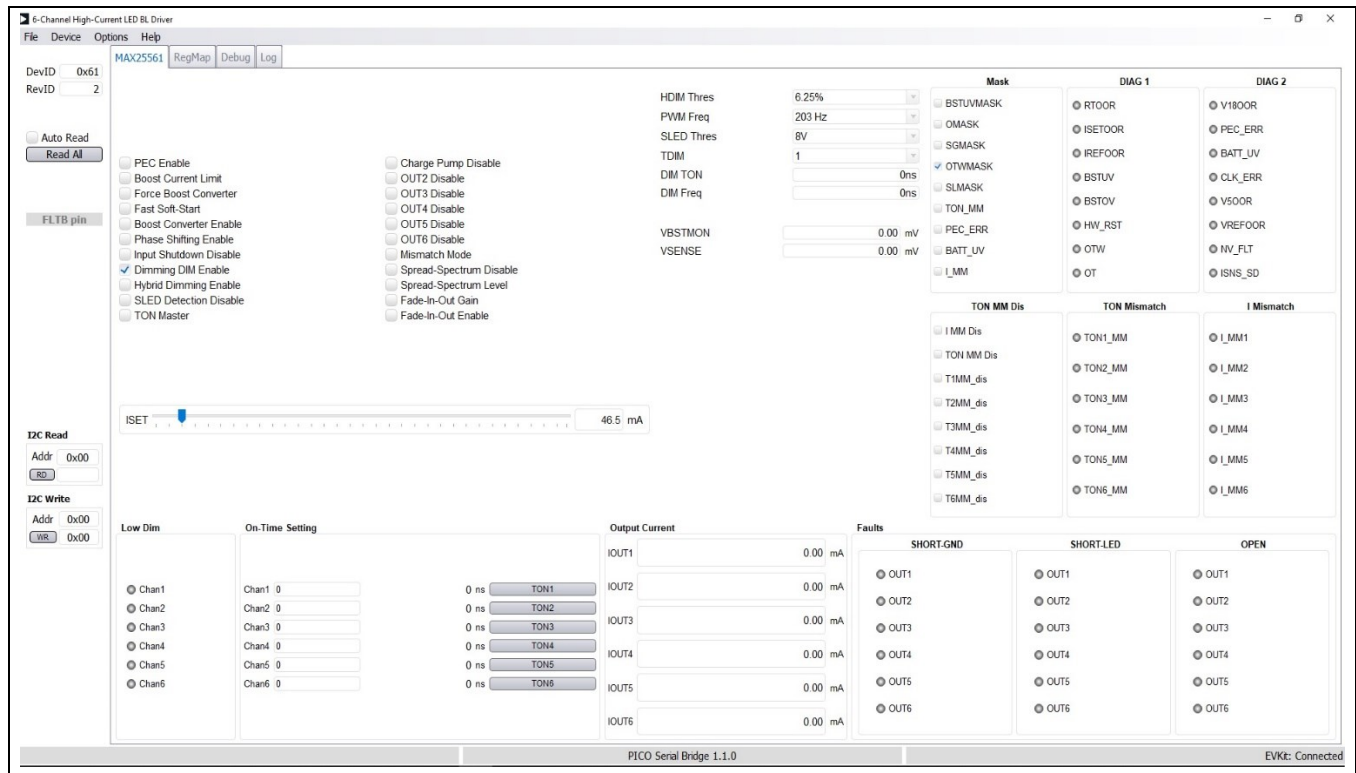

Figure 1. MAX25561 EV Kit Software (GUI) Main Window
18. Verify that the status bar in the bottom-right corner of the GUI displays **EV Kit: Connected**, as shown in Figure 1.